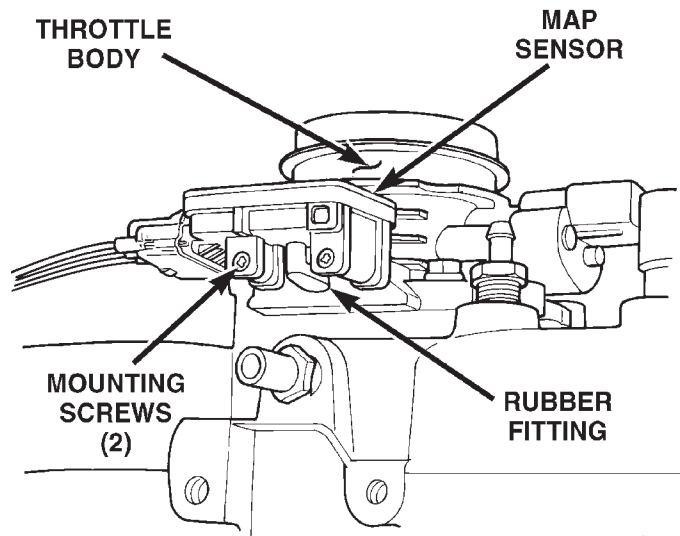

Fig. 46 MAP Sensor Mounting
The MAP sensor is mounted to the side of the throttle body (Fig. 41) or (Fig. 42). An L-shaped rubber fitting is used to connect the MAP sensor to throttle body (Fig. 46).
- (1) Remove air cleaner intake tube at throttle body.
- (2) Remove two MAP sensor mounting bolts (screws) (Fig. 46).
- (3) While removing MAP sensor, slide the rubber L-shaped fitting (Fig. 46) from throttle body.
- (4) Remove rubber L-shaped fitting from MAP sensor.